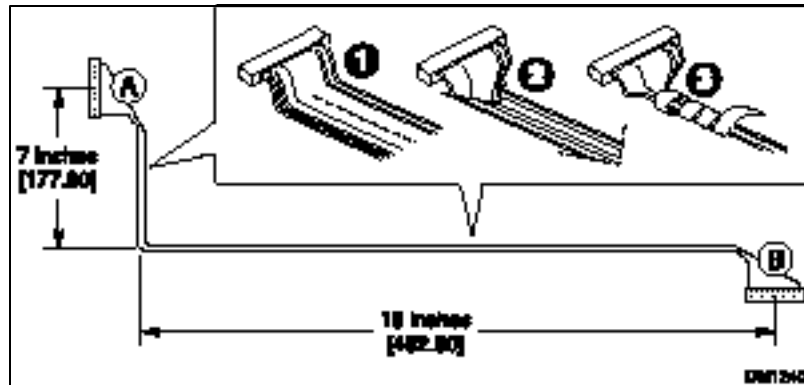

Figure 27. Preparing a SCSI Cable: Tape Drive to SCSI Controller on an L-P PCI Card
2. Flatten the cable and fold it in half for the full length, leaving about 1-inch at each end (see Figure 27).